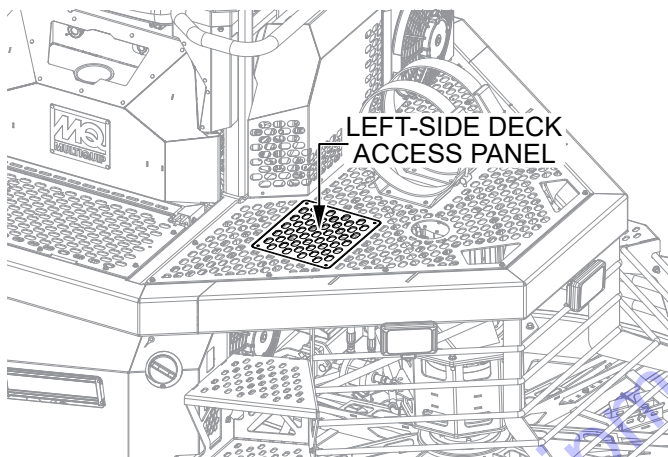

Figure 18. Battery Access
1. To access the battery, lift and remove the left-side deck access panel (Figure 18). Set the panel aside.